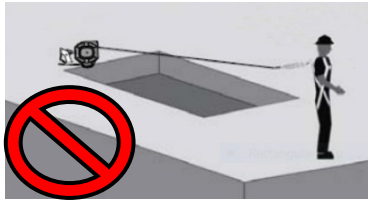

Fig. 5
- Never work on the far side of an opening opposite of the anchorage point (see Fig. 5).